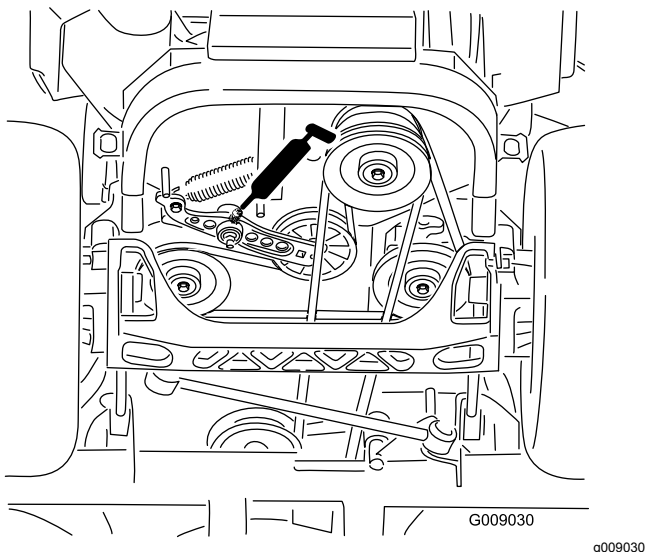

Figure 40
4. Grease the drive-belt-idler arm (Figure 40).